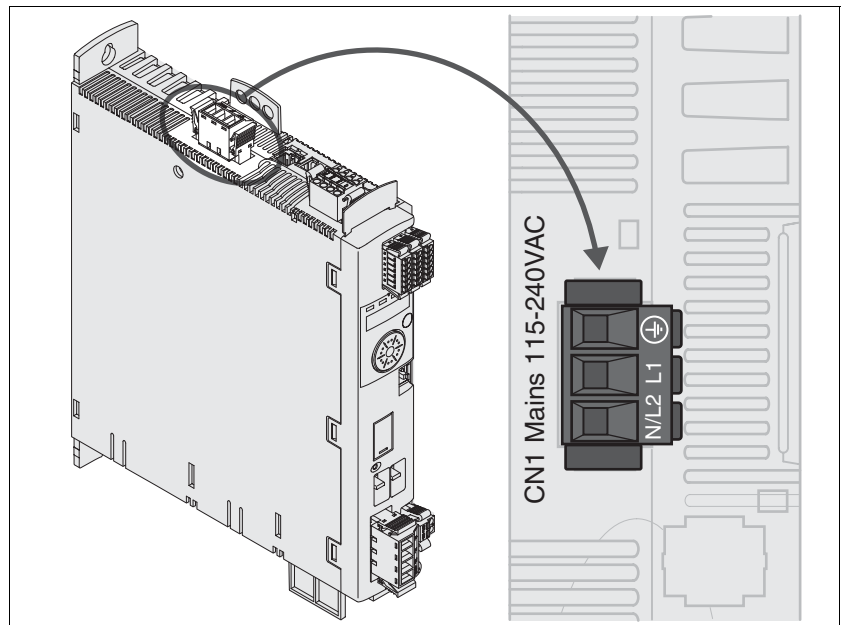

Figure 6.10 Wiring diagram power stage supply voltage for single-phase device.
- ▶ Connect the mains cable (Figure 6.10). Note the tightening torque specified for the terminal screws.